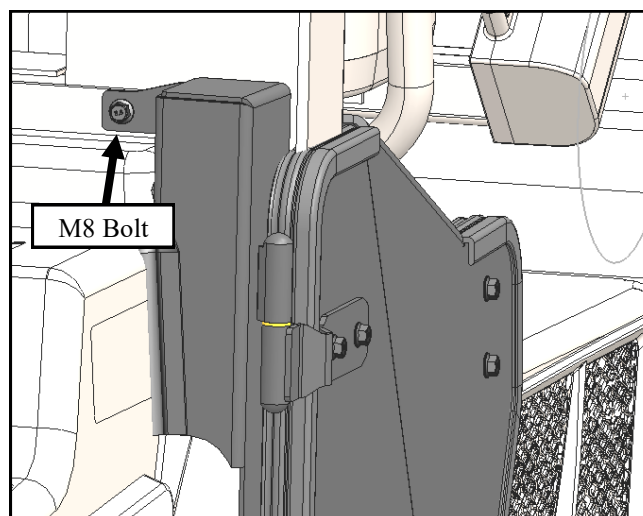

Fig. 3.9 (Install Left B-Pillar/Rear Door)
- 3.9 Install the left b-pillar/rear door assembly and loosely secure the top with the M8 bolt and washer from Step 3.7. See **Fig. 3.9**.